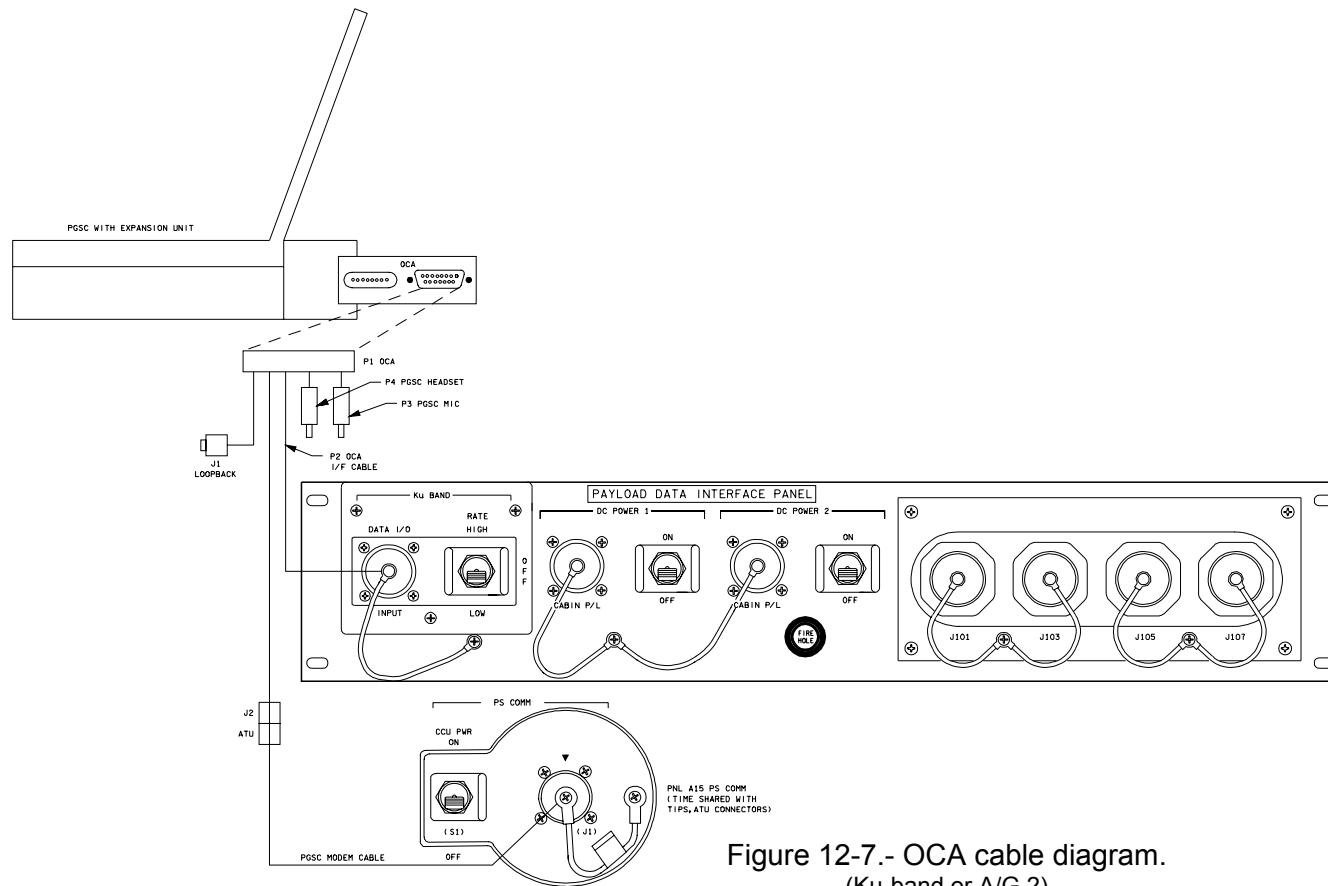

Figure 12-7.- OCA cable diagram.
9. Config PGSC Modem cable (if MFX ops reqd) and OCA I/F cable per figure 12-7